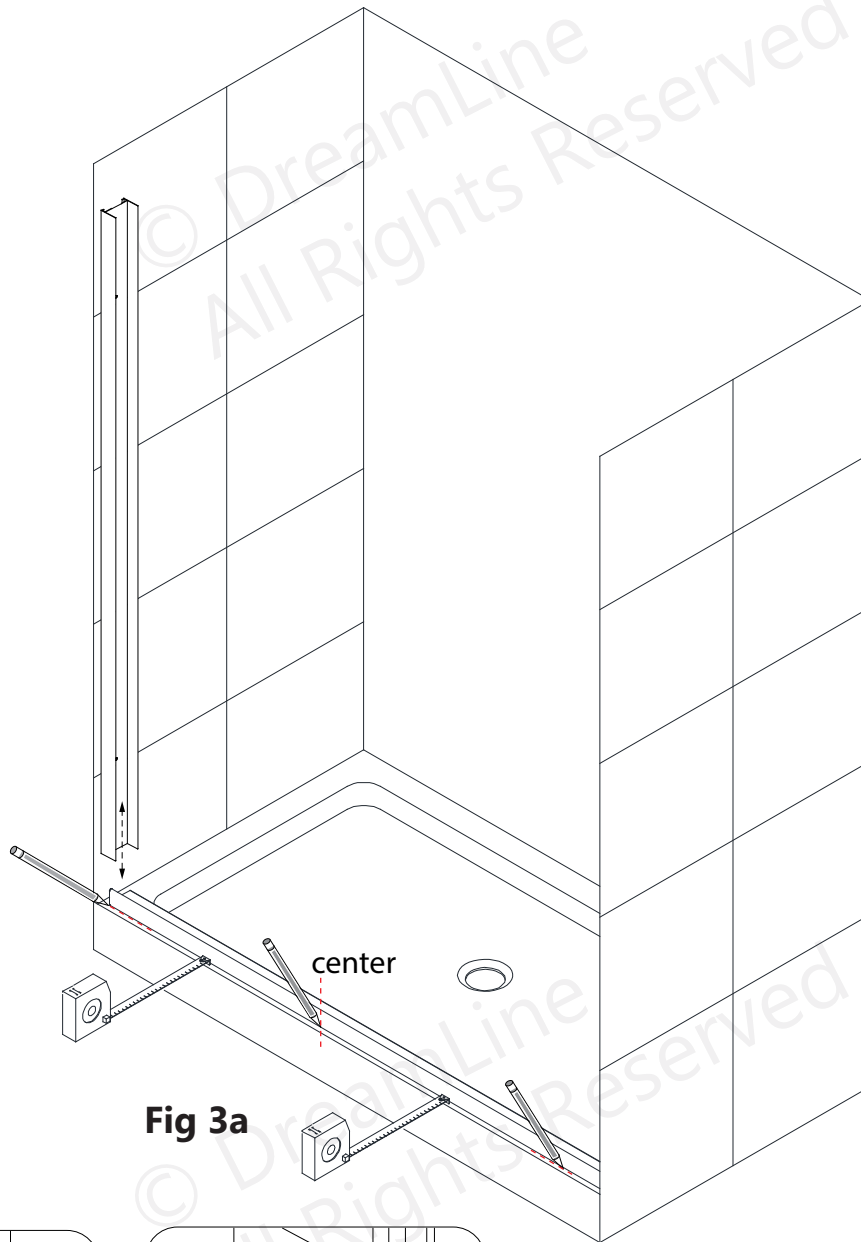

Fig 3a
3. Place the **Bottom Guide Rail (#15)** onto the threshold in the desired position. Use a tape measure to align the **Bottom Guide Rail (#15)** parallel with the front edge of the threshold and mark its position. **(Fig 3a)**